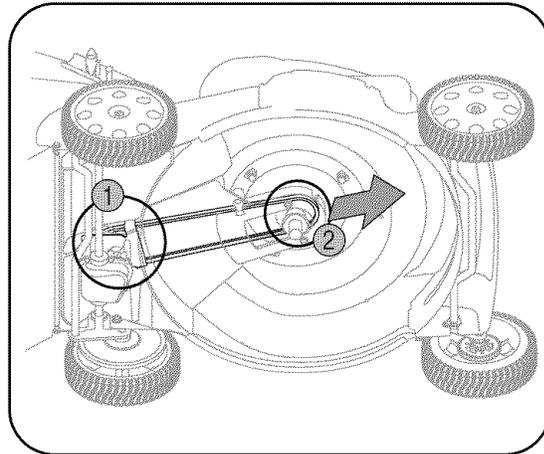

Figure 9
7. Once belt is off transmission pulley, push down on deck baffle to access engine pulley and slide belt off this pulley and out from under deck. See Figure 9.